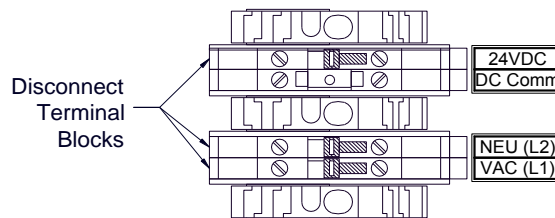

Figure 11 N4X AC/DC Inputs
2. Install AC power as follows (Figure 11):
- a. Install external DC power by connecting the 11.5-30VDC to the terminals of the TB1 DIN rail mounted terminal block labeled **24VDC** and **DC Comm** (Figure 11). The equipment supply wiring must be safety approved and rated for at least 7.5A.